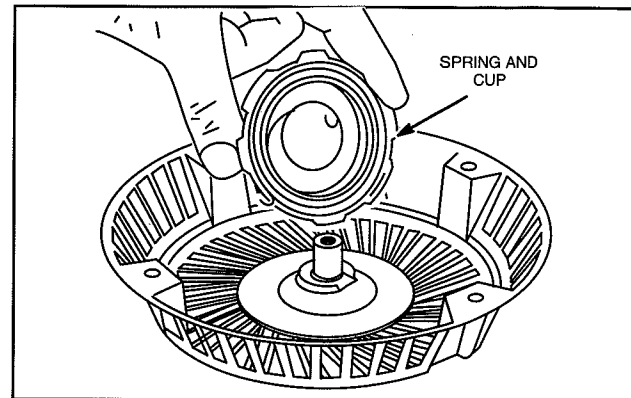

Fig. 18 – Remove Spring Assembly – Early Style
6. Remove spring and cup assembly from starter housing, Fig. 18.